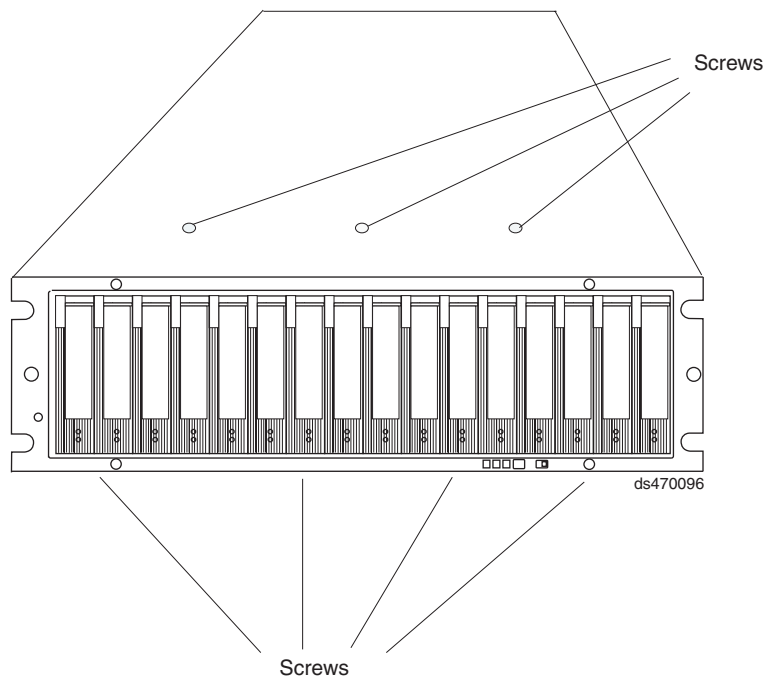

Figure 40. Screws holding the top and bottom sides of the chassis to the cage frame
13. Pull the chassis outward from the front of the rack and remove from the rack. Place it on a level surface. Look for a row of three Phillips screws on top of the chassis and a row of four Phillips screws on the bottom of the chassis, as shown in Figure 40 on page 90. Remove the seven Phillips screws using the #1 Phillips screwdriver. Save these screws.
18. Install the seven Phillips screws (three on top and four on bottom) that hold the front cage frame to the EXP520 chassis that you removed in step 13 on page 89, as shown in Figure 40.